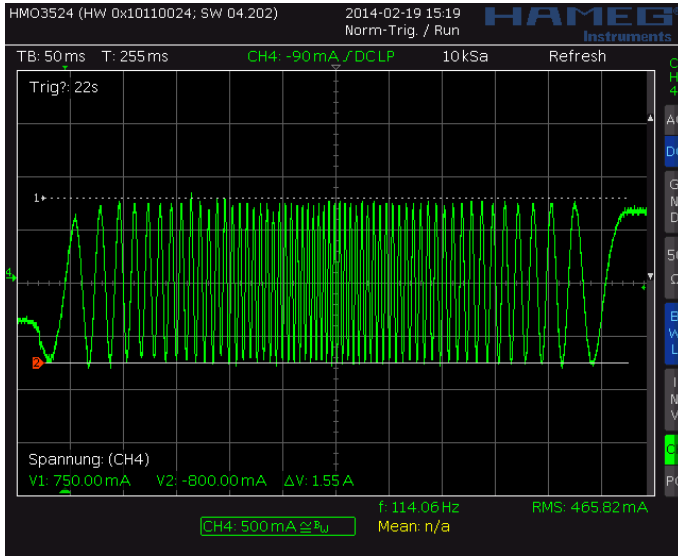
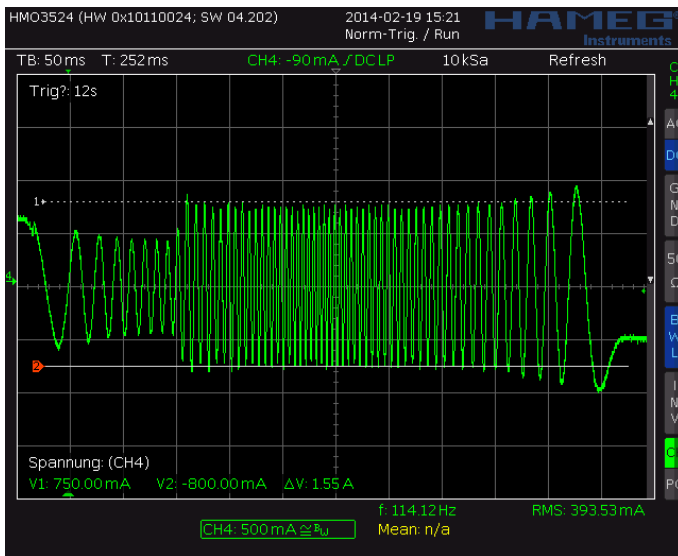
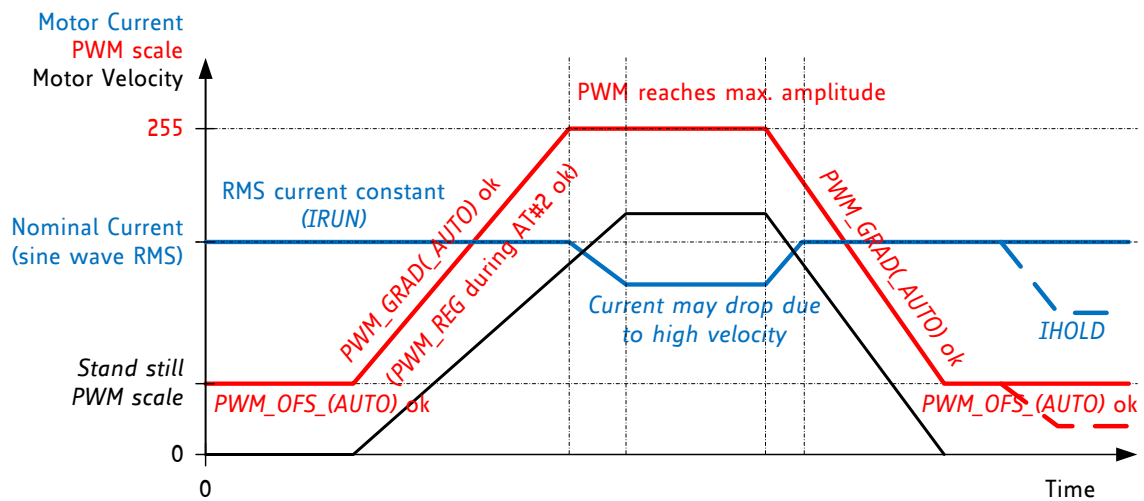

Figure 6.3 Scope shot: good setting for PWM_REG
Figure 6.4 Scope shot: too small setting for PWM_REG during AT#2
Figure 6.5 Successfully determined PWM_GRAD(AUTO) and PWM_OF(S)_AUTO
In StealthChop voltage PWM mode, the autoscaling function ($pwm_autoscale = 1$, $pwm_autograd = 1$) regulates the motor current to the desired current setting. Automatic scaling is used as part of the automatic tuning process (AT), and for subsequent tracking of changes within the motor parameters. The driver measures the motor current during the chopper on time and uses a proportional regulator to regulate PWM_SCALE_AUTO in order match the motor current to the target current. PWM_REG is the proportionality coefficient for this regulator. Basically, the proportionality coefficient should be as small as possible in order to get a stable and soft regulation behavior, but it must be large enough to allow the driver to quickly react to changes caused by variation of the motor target current (e.g. change of $VREF$). During initial tuning step AT#2, PWM_REG also compensates for the change of motor velocity. Therefore, a high acceleration during AT#2 will require a higher setting of PWM_REG . With careful selection of homing velocity and acceleration, a minimum setting of the regulation gradient often is sufficient ($PWM_REG=1$). PWM_REG setting should be optimized for the fastest required acceleration and deceleration ramp (compare Figure 6.3 and Figure 6.4). The quality of the setting PWM_REG in phase AT#2 and the finished automatic tuning procedure (or non-automatic settings for PWM_OFS and PWM_GRAD) can be examined when monitoring motor current during an acceleration phase Figure 6.5.